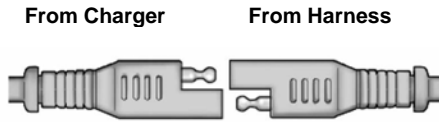

Figure 1
The Waterproof 800 Battery Tender® Battery Charger has a 2-wire DC output cable. The end of this cable has a 2-pin quick disconnect type connector. Pictorial examples are shown on both the left and right sides of Figure 1 below. The connectors are identical in both their physical appearance and mechanical construction. However, the Electrical Potential of the Exposed Metal Pin is high (up to approx 15 volts) on the charger cable connector and low (nearly ground or zero volts) on the harness cable connector. The opposite is true for the covered metal socket in each connector.
1. Refer to Figure 1. Connect the two-pin connector from the battery charger (left side) straight on to the two-pin connector on the battery harness (right side).